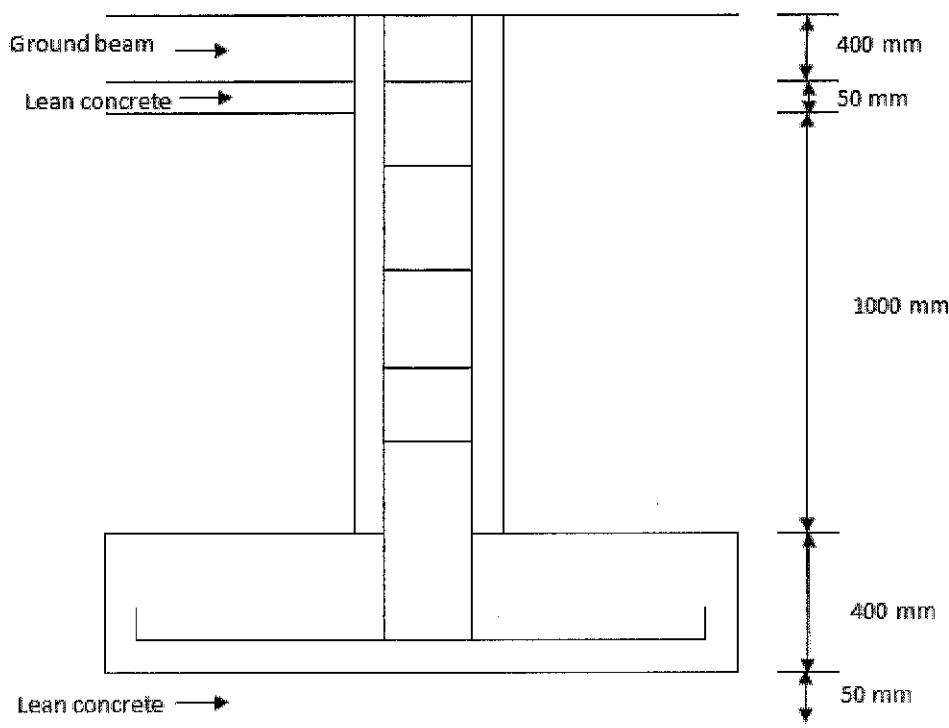

Figure B4(c) / Rajah B4(c)
- (c) The size of column stumps for the new proposed building is shown in the Table B4(c) and Figure B4(c), calculate the quantity for reinforced concrete and formwork for column stump F1 and F2.